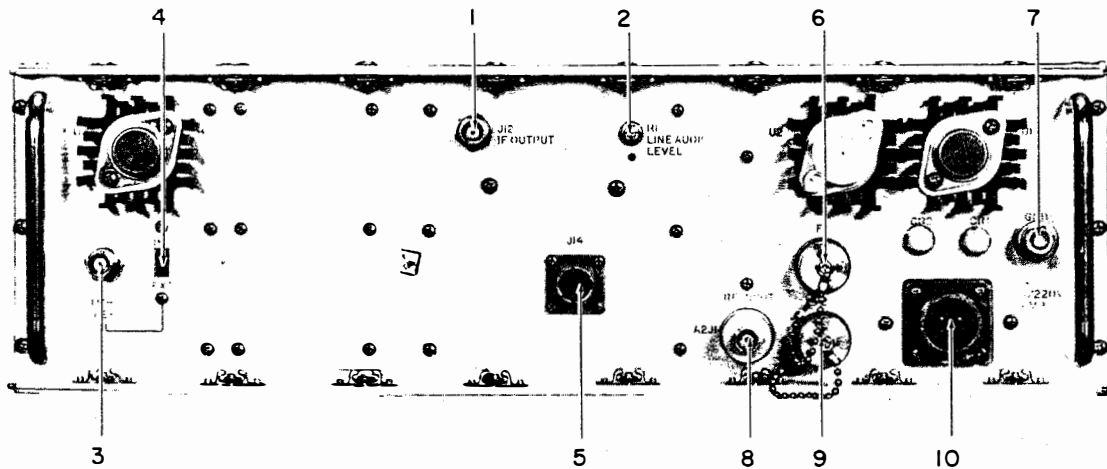

Figure 2-2. AN/URR-74(V)2 Receiver, Rear Panel View
(12) RF GAIN control. When in the MAN GAIN MODE, rotating the RF GAIN control clockwise approximates a logarithmic increase in receiver gain. In the AGC GAIN MODE, this control will have no effect.
(13) PHONE LEVEL control. Rotating the PHONE LEVEL control clockwise increases the level of both the phone audio at the rear panel Audio Output connector J14 and the front panel PHONES jack.
(14) IF BANDWIDTH kHz controls. One of the IF bandwidth switches must be selected when in the AM, FM or CW detection modes; in the other three detection modes, IF bandwidth switches are inoperative. Available bands are 0.3, 1.0, 3.2, 6 and 16 kHz.
b. Rear Panel. Refer to figure 2-2. The numbers shown on the figure correspond to the paragraph numbers below.
(1) J12 IF OUTPUT. This BNC connector supplies a 455 kHz IF output. The level will be 20 mV minimum into 50 ohms in AGC mode, for RF signals greater than 3  $\mu$ V.
(2) R1 LINE AUDIO LEVEL. This potentiometer adjusts the level of audio signals appearing at the Line Audio terminals of the output connector. The front panel meter monitors this output when the related LINE AUDIO switch is engaged. Rotating this control fully clockwise will provide at least 1W audio output (24.5 V rms/+30 dBm) into 600  $\Omega$ .
(3) J11 1 MHz REF reference. When the CLOCK switch is in the INT position, this BNC connector provides a 1 MHz, 100 mV rms output into 50  $\Omega$ . When the switch is set in the EXT position, a 1 MHz reference signal of at least 50 mV rms into 50  $\Omega$  must be applied to J11 to provide a time base for the receiver.
(4) INT/EXT S2 CLOCK switch. Setting this switch to the INT position selects the internal time base for the receiver and provides the internal 1 MHz reference output at
2-7. BATTLE-SHORT OR EMERGENCY OPERATION. There are no special procedures for emergency operation of the URR-74(V)2 receiver due to its simplicity. Should the receiver fail to function, the only operator action necessary is to check fuses F1 and F2 on the rear panel for continuity, see figure 2-2.
2-8. EMERGENCY TURN-OFF. In the event of an emergency requiring shut down of the receiver, simply depress the POWER PUSH ON/OFF switch. If deemed advisable, the power cord may then be disconnected from jack A13J1, located on the rear panel, see figure 2-2.